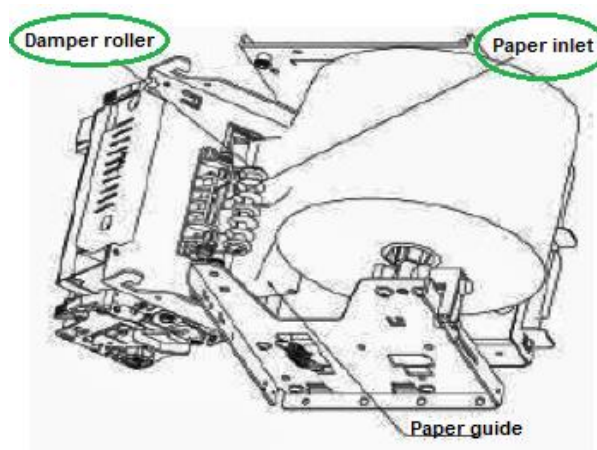

Figure 84. Paper roll feed
- Slide the cut end of the paper roll into the paper inlet under the white plastic damper roller, as shown in Figure 84